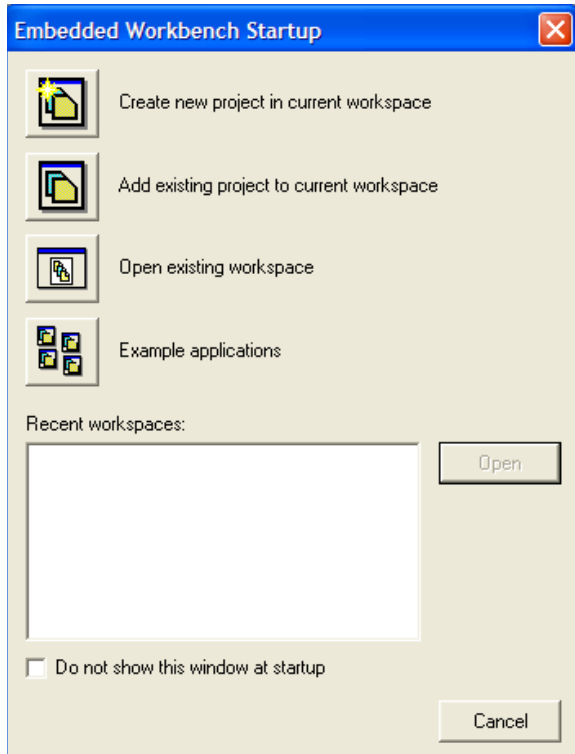

Figure 21. Embedded Workbench Startup
2. Launch the IAR Embedded Workbench by clicking the **Start** button, then select **Programs**, then **IAR Systems**, and then **IAR Embedded Workbench**. The **Embedded Workbench Startup** window shown in Figure 21 appears.